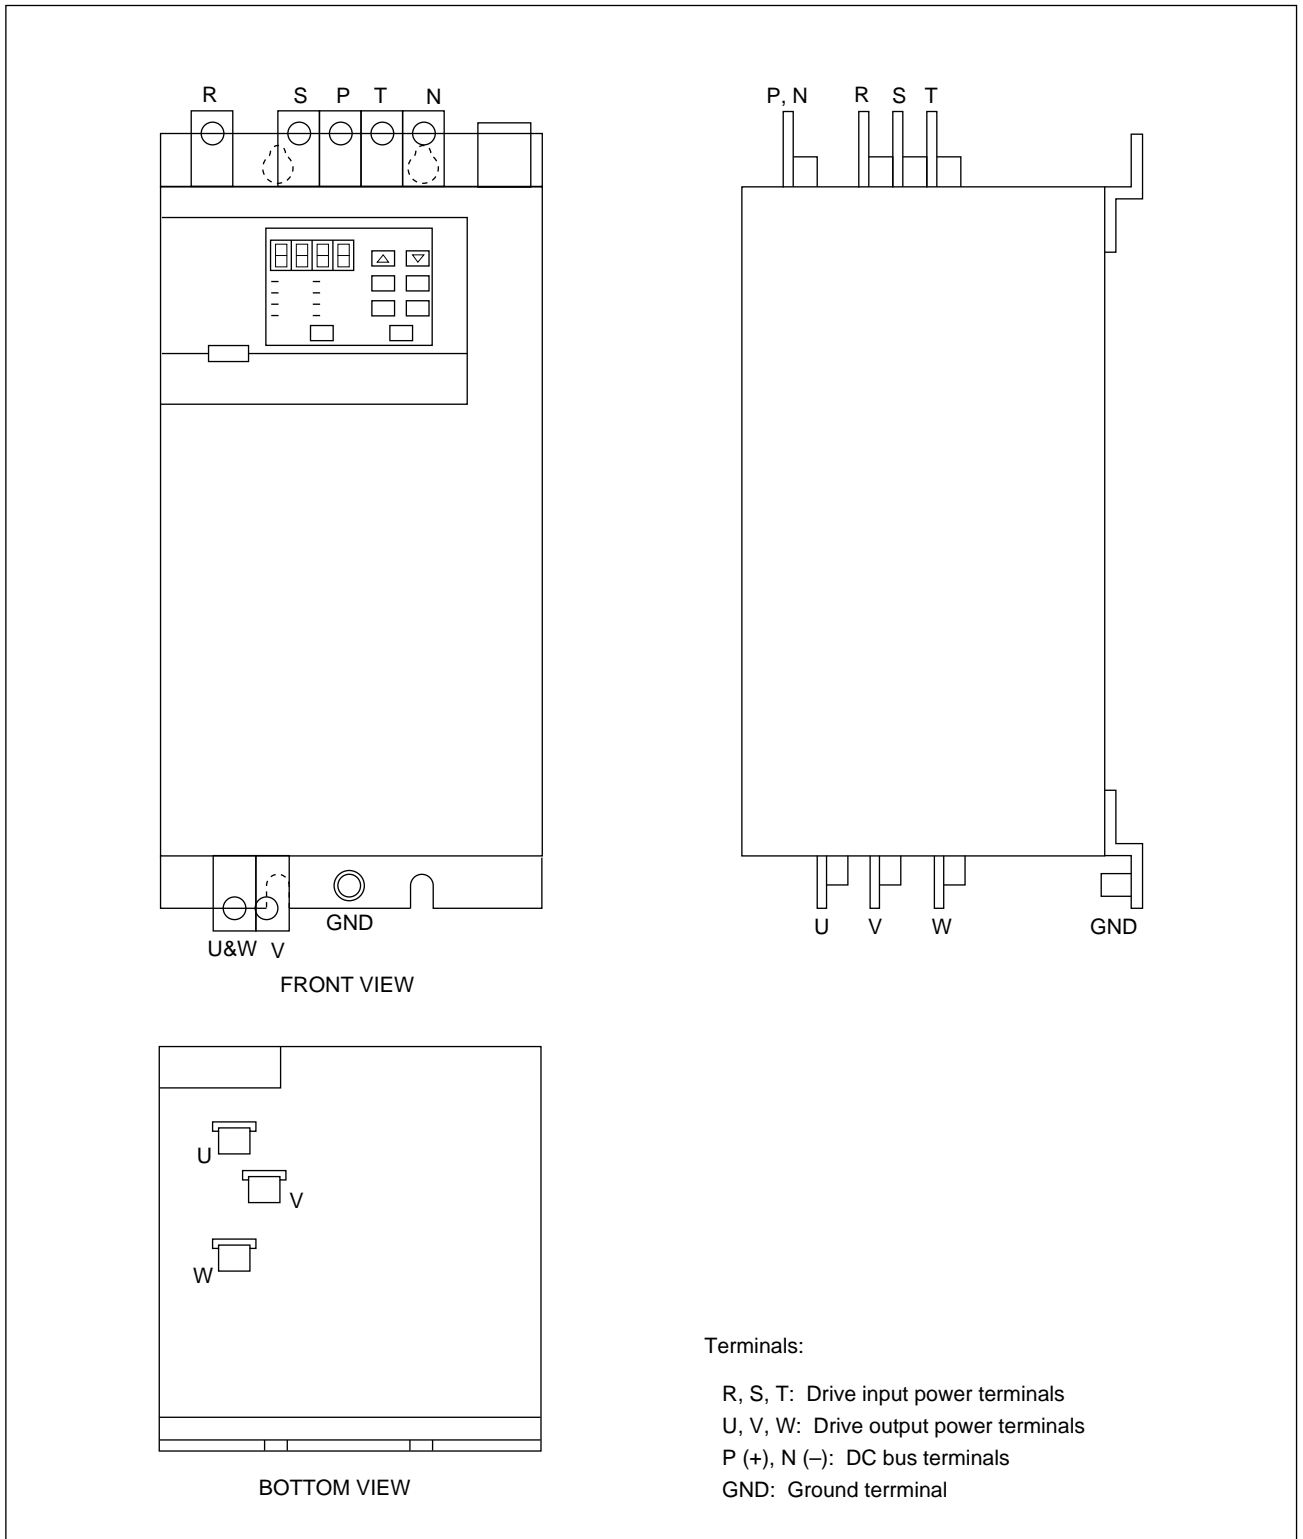

Figure 4.1 – Terminal Locations
All wiring should be installed in conformance with the applicable local, national, and international codes (e.g., NEC/CEC). Signal wiring, control wiring, and power wiring must be routed in separate conduits to prevent interference with drive operation. Note that no wires are to be routed behind the drive. Figure 4.1 shows the locations of the power terminals and the grounding terminals of the GV3000/SE drives.
- Step 2. Run a suitable equipment grounding conductor unbroken from the drive's ground terminal to the motor's ground terminal and then to earth ground. See figures 4.1, 5.1 and 5.2.
Step 2. Connect the three-phase AC input power leads (three-wire 380-460 VAC) to terminals R/L1, S/L2, T/L3. Refer to figure 4.1 for the locations of the terminal.
Step 2. Connect the DC input power leads (two-wire 620 VDC nominal) to terminals + and -. See figure 4.1 for the locations of the terminals.
- Step 2. Connect the three-phase AC output power motor leads to terminals U/T1, V/T2, W/T3. See Figure 4.1 for the locations of the terminals.